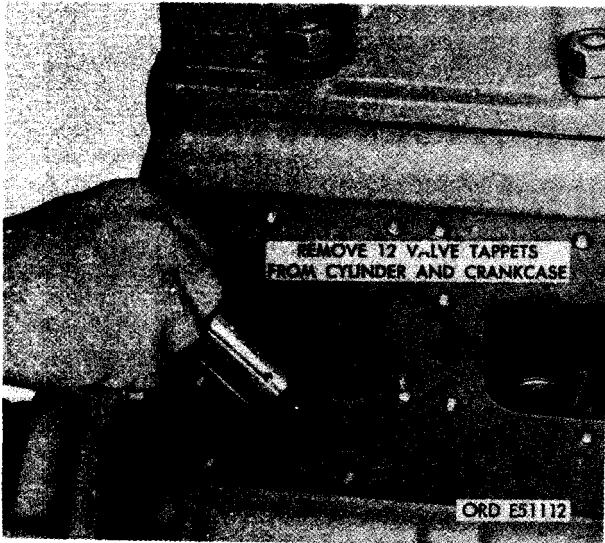

FIGURE 270. REMOVING OR INSTALLING VALVE TAPPETS.
(3) Refer to figure 270 and remove valve tappets.